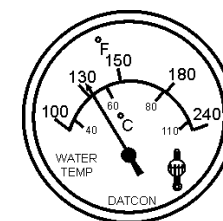

Figure 49. Coolant Temperature Gauge
11. The **coolant temperature gauge** (Figure 49) will indicate the coolant temperature. Under normal operating conditions the coolant temperature should be between 167°~203°F (75°~95°C) (**Green Zone**).